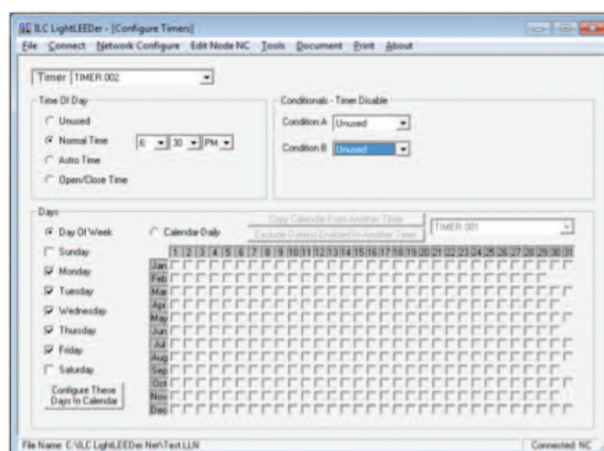

Figure 3.1
**3.7.1 Configure Timers:** For the following programming select the “Edit Node NC” pull-down menu select “Timers”, then “Configure Timers” to enter the Configure Timers screen as shown in figure 3.1.